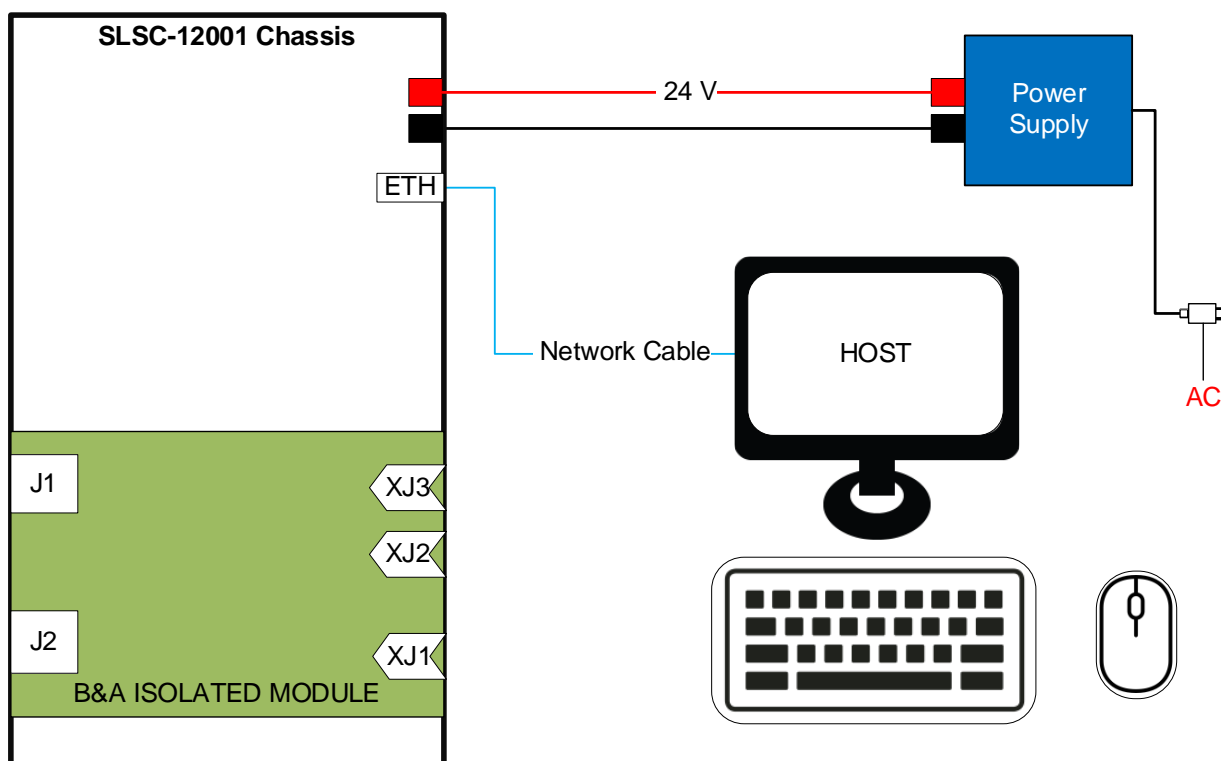

Figure 10. Module to Host Connection
- 1) Connect the SLSC-12001 chassis and the host computer with a standard network cable directly (Figure 10) or connect them both to the same network.